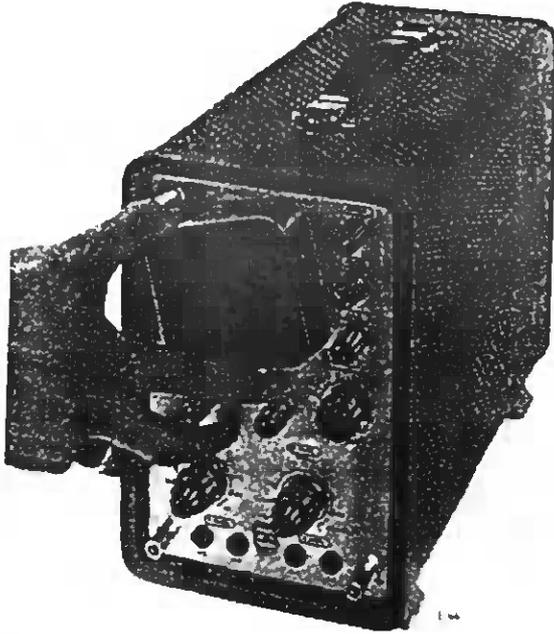

Fig. 17. Removing the graticule
- Turn the window approximately 15° anticlockwise and remove it from the front panel (Fig. 17).